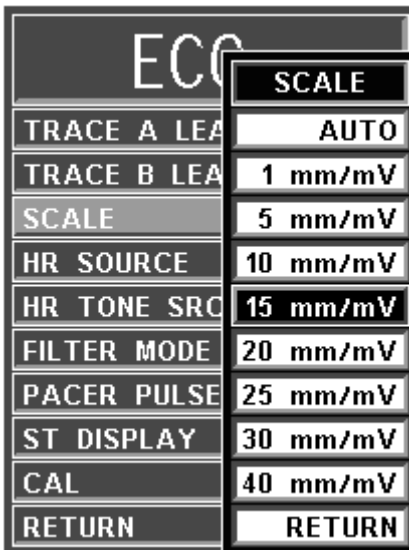

Figure 4-3. The ECG SCALE Menu
- SCALE.** Selecting this menu option allows the selection of the scale for the ECG waveform(s). The options are AUTO, 5, 10, 15 (default), 20, 25, 30, and 40 mm/mV (See Figure 4-3). The selected scale appears on the right hand side of this menu option. If AUTO is selected, a scale is picked that would make the current waveform(s) fill the ECG viewing area. This scale will be in effect until another scale is selected (AUTO or any other selection). A Scale Indicator associated with each Trace is displayed on the left side of the screen, and denotes a 1 millivolt signal amplitude. If operating a dual monitor system, with a 3155A and 3155MVS communicating with the 3150(M), the adjustments made here are interactive between the two 3155 monitors to ensure that the monitored parameters remain consistent between all components of the MRI monitoring system.
- (1) If the scale of the ECG trace is so large that the top or bottom of the ECG waveform is distorted or flattened, the “OVERSCALE” message flashes in the ECG waveform area. This message will override other ECG error messages. Use the SCALE menu option (in the ECG Menu) to resize the waveform until the “OVERSCALE” message stops flashing. If this continues, the Auto Scale option should be selected to prevent further waveform distortion.